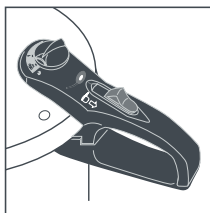

Fig.10
Check the operating valve after each use to check there are no food remains inside it. To do this, move valve to position shown in figure 10 remove the valve (detailed instructions below). Clean it by letting water run through it. Next, holding the lid against the light, look through the hole below the valve to make sure no food particle is obstructing it. If necessary clean the hole with a small brush. If having checked the valve, you note the cooker doesn't function properly, don't use under any circumstance but take it to the **Authorised Technical Service**.
- 1. Place valve** in steam expulsion position, steam cloud picture (Fig.10).